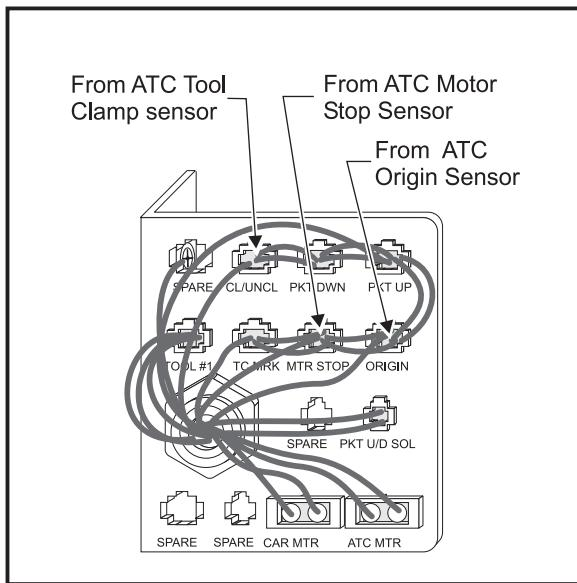

Figure 3-77 Proximity Switch Connection Bracket.
3. Disconnect the proximity switch connector from the bracket on the top of the assembly. See Figure 3-77.
2. Screw two nuts to the threaded section of the proximity switch. Snug the two nuts together and apply thread sealant to the threads. Carefully screw the switch into the cam box. Connect the proximity switch connector to the plug on the switch bracket. Refer to Figure 3-77